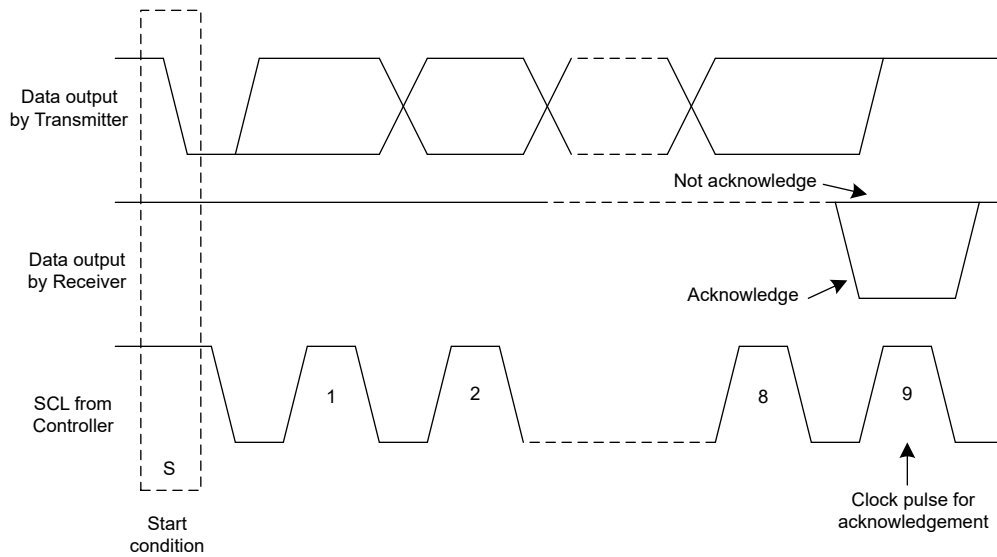

图 8-4. Acknowledge and Not Acknowledge on the I2C Bus
Other than specific timing signals, the I2C interface works with serial bytes. At the end of each byte, a ninth clock cycle generates and detects an acknowledge signal. Acknowledge is when the SDA line is pulled low during the high period of the ninth clock cycle. A not-acknowledge is when the SDA line is left high during the high period of the ninth clock cycle as shown in Figure 8-4.
2. The controller then generates the SCL pulses, and transmits the 7-bit address and the read/write direction bit (R/W) on the SDA line. During all transmissions, the controller makes sure that data are valid. 图 8-6 shows that a valid data condition requires the SDA line to be stable during the entire high period of the clock pulse. All devices recognize the address sent by the controller and compare the address to the internal fixed addresses. Only the target device with a matching address generates an acknowledge by pulling the SDA line low during the entire high period of the ninth SCL cycle; see also 图 8-4 by pulling the SDA line low during the entire high period of the ninth SCL cycle. Upon detecting this acknowledge, the controller knows the communication link with a target has been established.